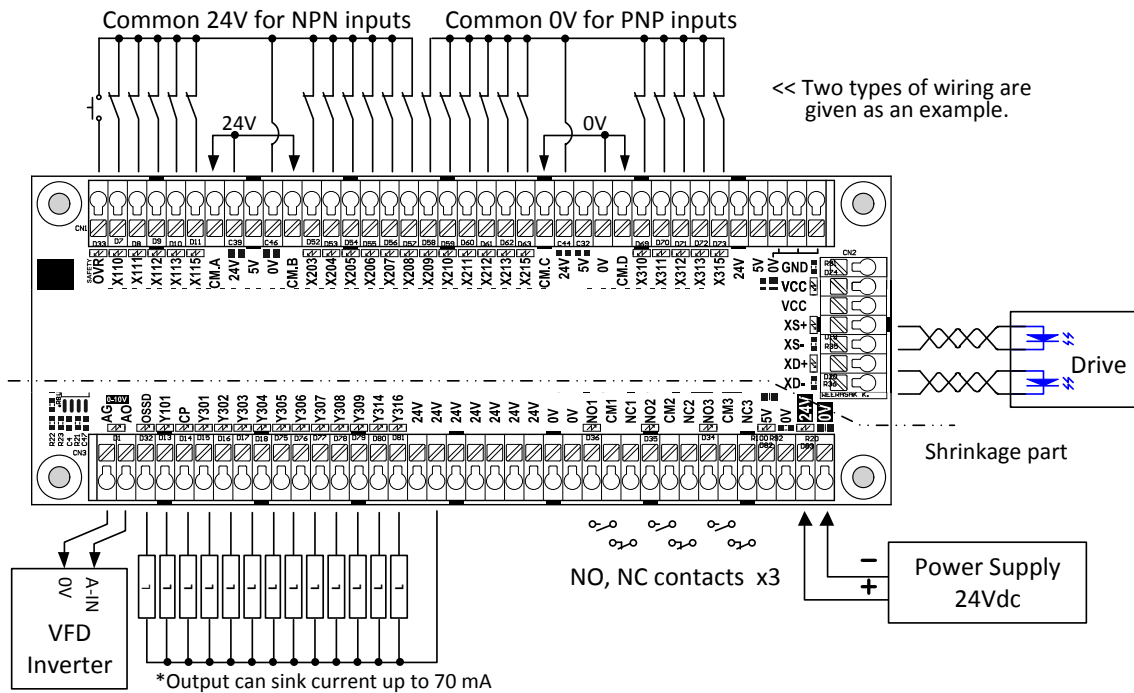

Figure 1, MB3 Overview Connection
**Figure 1** is a shrinkage view of MB3 board. It shows the connection of inputs & outputs, power supply, analog output for the VFD and axis signals.